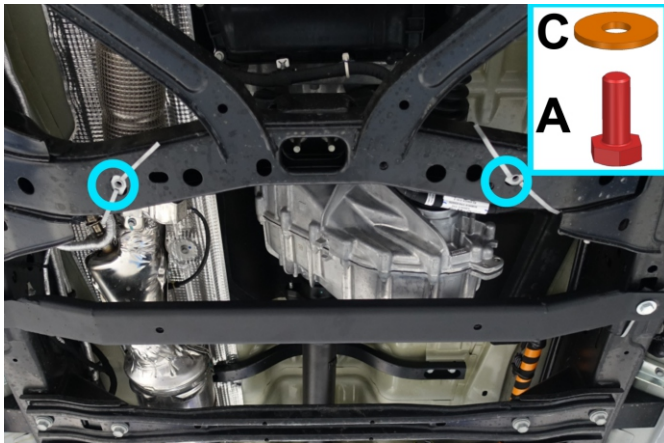

Fig. 7
4. Loosely install supplied M10x1.5x30 bolts (item A) and M10 washers (item C) as shown in fig.7.